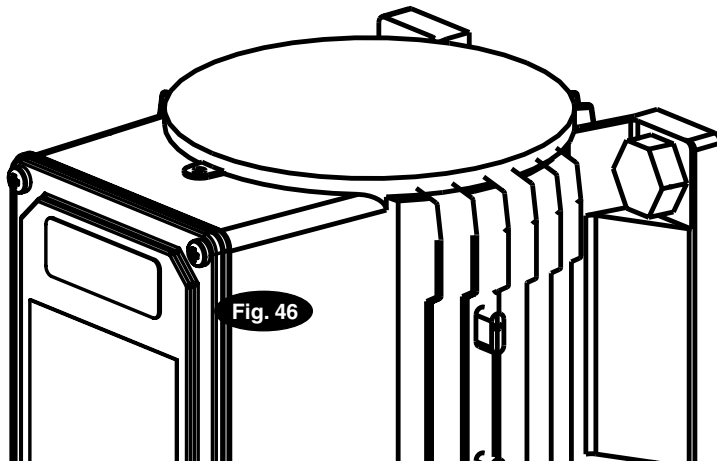

Fig. 46 Detail
44. Check Pressure (All Models): Check hydraulic pressure at indicated location on the power unit, Fig. 46. The maximum relief is not to exceed 18.99N/mm² for the SPOA40 and SPO40 Series lifts. Not to exceed 14.50N/mm² for the SPOA30 Series lifts. These valves are nonadjustable. Replace if improper relief valve is in place.